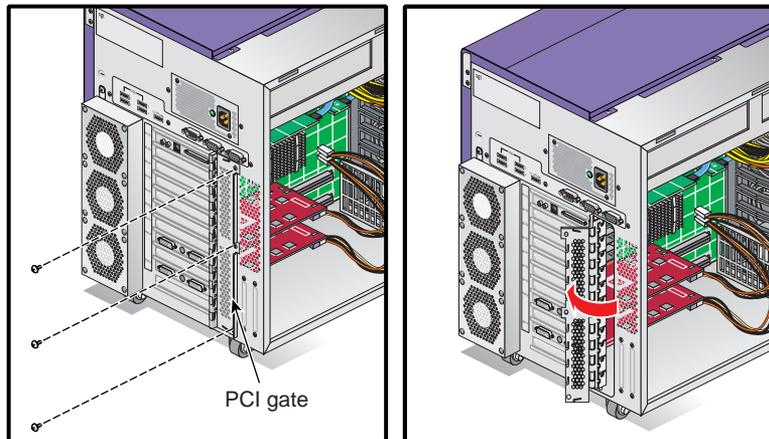

Figure 3-17 Opening the PCI Gate
2. Remove the three screws that secure the PCI gate. Then open the PCI gate (see Figure 3-17).